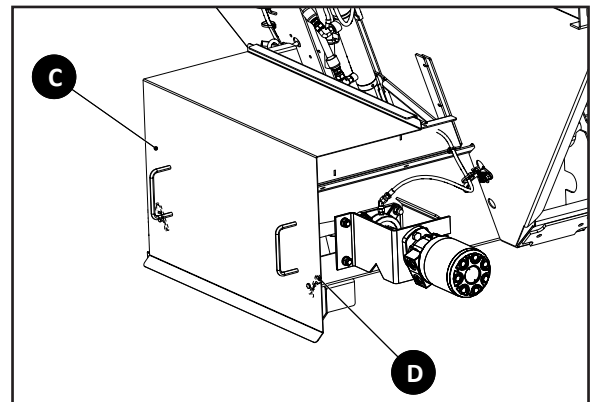

Figure 2
5. Figure 2 - Install Conveyor Cover (C) and secure with hair pins D) on each side.